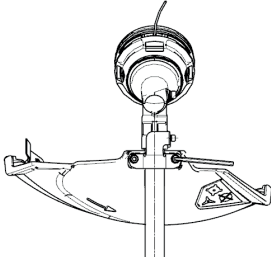

Fig. 6
1. Lift the trimmer head and face it downward; align the two mounting holes in the guard with the two assembly holes in the base of shaft. Make sure that the internal surface of the guard faces towards the trimmer head, use the supplied T20 TORX key lock the guard bolts in place (Fig. 6).